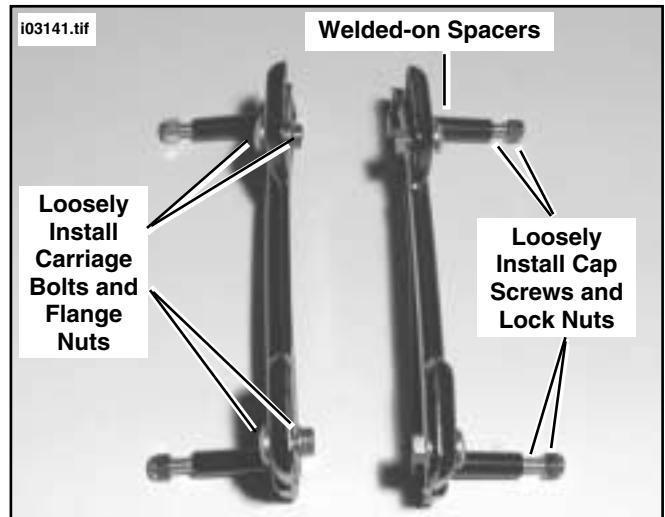

Figure 17. Saddlebag Fender Supports
- See Figure 17. Loosely install two (carriage-style) mounting bolts (P/N 5418) and two flange nuts (P/N 7601) to each support with bolt heads facing the outer (saddlebag) side of support assemblies. Finger tighten. Then, loosely install two 3/8-16X3" Hex Head Cap Screws (P/N 4205) and two 3/8-16 Nylon Insert Hex Lock Nuts (P/N 7778) to each support through the Fender Support welded-on spacers from inside to outside. Finger tighten.